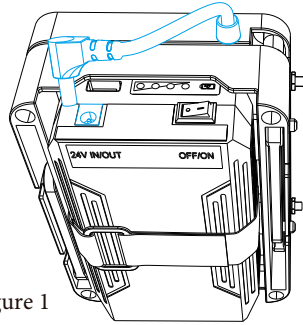

Figure 1
(1) After removing the signal transmitter from the packaging box, insert the power cord plug located on the side of the signal transmitter panel into the battery discharge port at the bottom (as shown in Figure 1). Then, turn on the battery switch (as shown in Figure 2). The signal transmitter will then be in working condition.